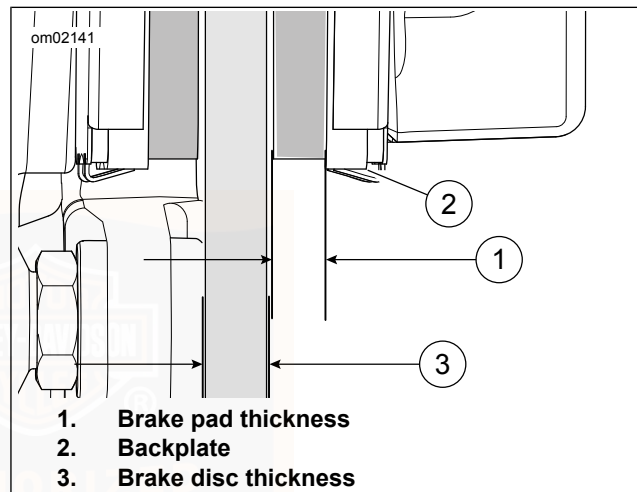

Figure 35. Brake Thickness
2. See Figure 35. Measure the thickness of the brake pad friction material.